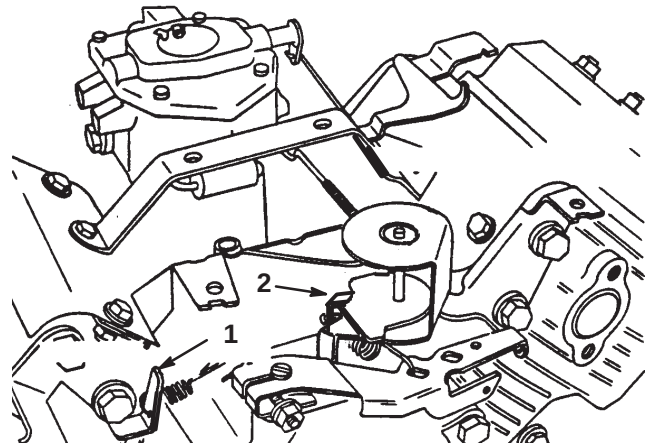

Figure 39
3. Bend the governed idle spring anchor tang (Fig. 39) to attain an idle speed of 1450 ± 50 RPM. Check the speed with a tachometer.
5. Move the throttle control to the Fast position. Bend the high speed spring anchor tang (Fig. 39) to attain a high speed of 2850 ± 50 RPM.